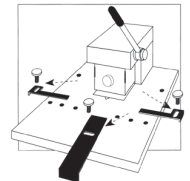

Fig. 4
- 1 - Use the thumb-screws to remove the three "standard" card alignment guides. [Figure 4]